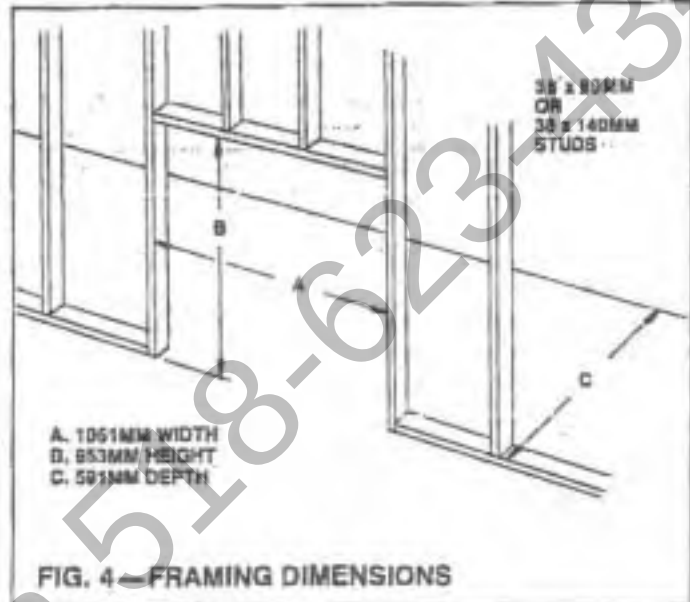
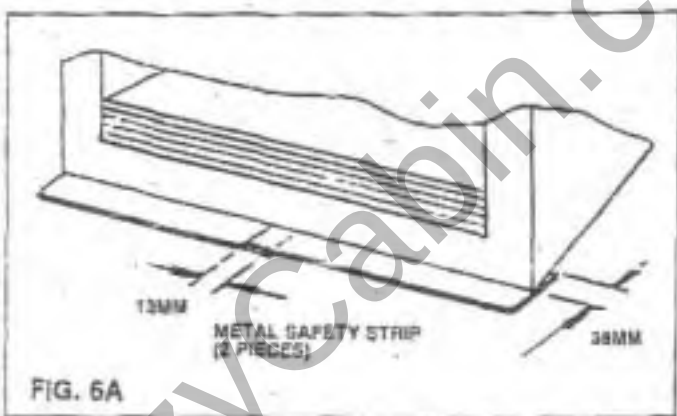

FIG. 4—FRAMING DIMENSIONS
FIG. 6A
STEP 1. Frame cavity (closet) or opening for fireplace at chosen location (Fig. 4). Move fire-place into position and install metal safety strips (provided) under fireplace as shown in Fig. 6A.